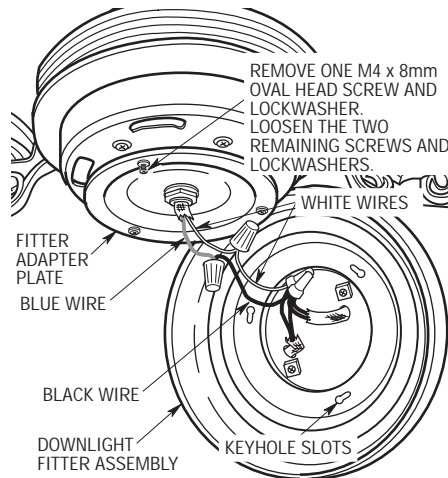

Figure 13
- 7. Engage the connectors of the downlight fitter assembly with the connectors of the motor assembly (black to blue; white to white) (Figure 13).